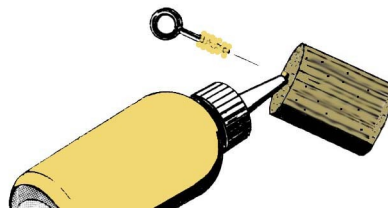

Figure 3
- **Step 5** Use the screw eye to create a threaded hole in one end of the balsa bulkhead, as shown in Fig. 3 above. Reverse the screw eye from the hole. Apply glue to the threads, and down into the hole. Reinsert the screw eye until it bottoms out. Do not wipe away the excess glue. Set the bulkhead aside in an upright position until the glue has dried.